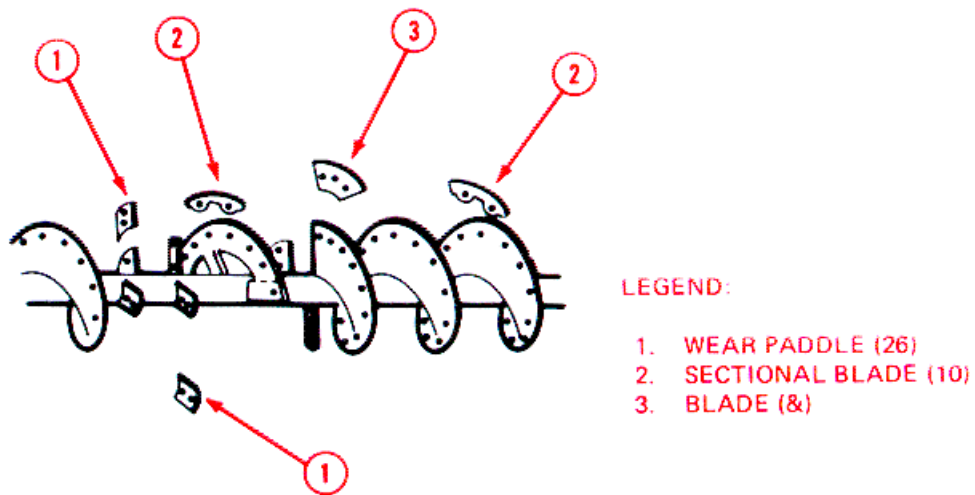

Figure 3-28. Mixing Auger Wear Blades.
- (1) 26 wear paddles (1, fig. 3-28).
- (2) 10 sectional blades (2).
- (3) 7 blades (3).